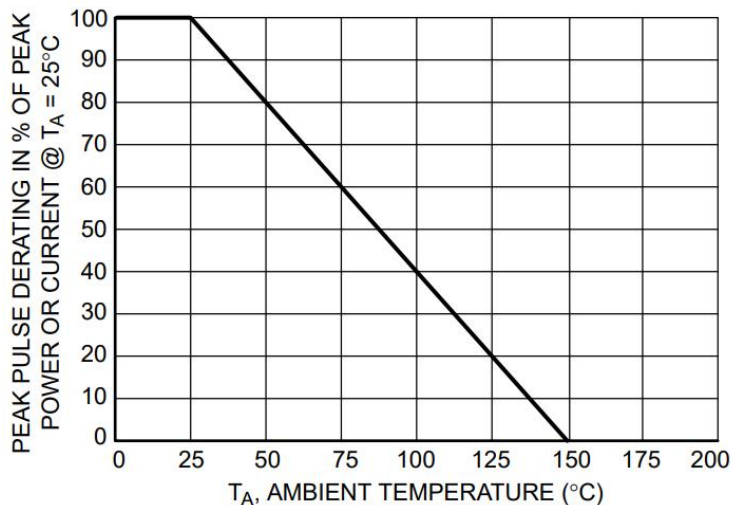
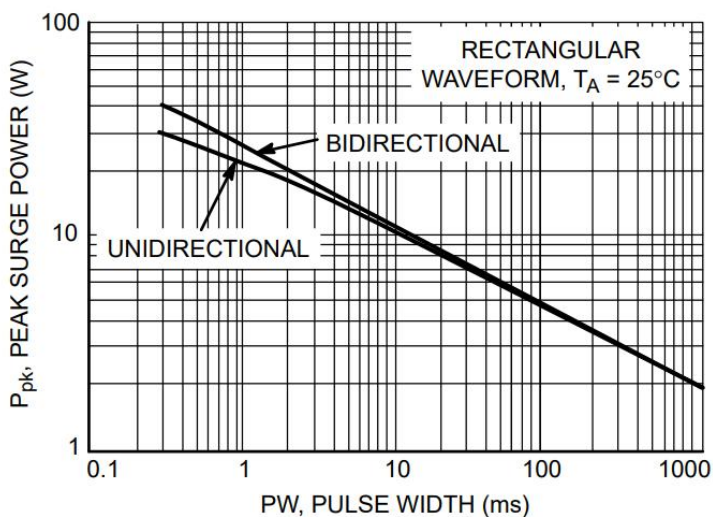

Figure 6. Pulse Derating Curve
Figure 7. Maximum Non-repetitive Surge Power, P_{pk} versus PW
1. Non-repetitive current pulse per Figure 6 and derate above $T_A = 25^\circ\text{C}$ per Figure 7.